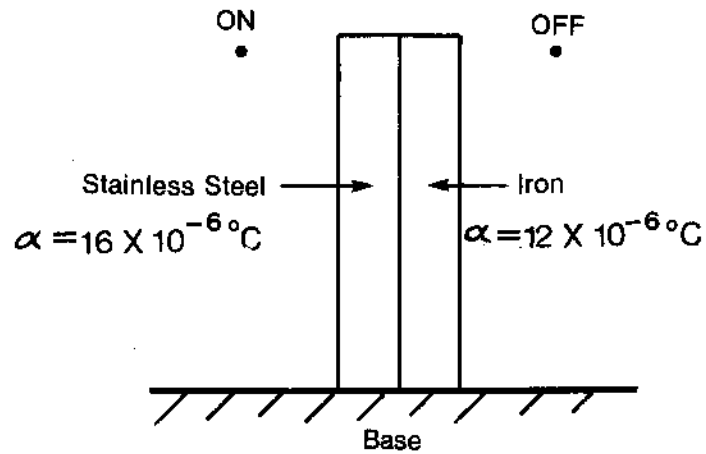

Figure 2.2
- 2.7) Towards which contact will the strip shown in Figure 2.2 move as it is cooled? Briefly explain why.
2.5) The original lengths of the two materials are the same and both substances undergo a  $5^\circ\text{C}$  temperature difference. The behaviour of the strip thus depends on the coefficients of linear expansion of the two metals. Since the coefficient for brass is greater than that for carbon steel, the brass will become longer. The only way this situation can occur in this strip is if the strip bends as shown in Figure 2.2.